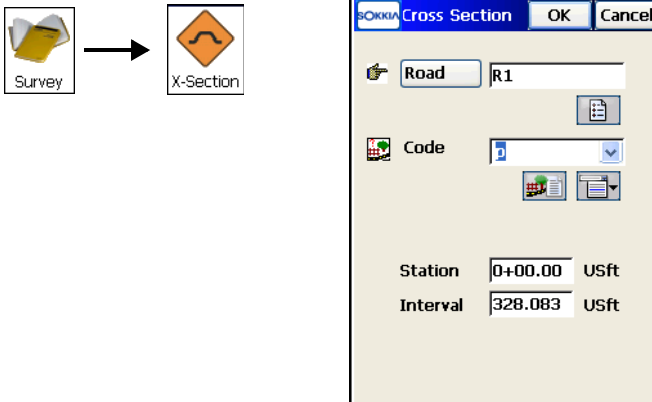

Figure 8-28. Cross Section
2. On the *Cross Section* screen, set the parameters of the station where the cross-section survey is to be performed: the road name, the code and attributes of the center line, the station where the cross section is surveyed and the increment of distance towards the next station (Figure 8-28). Tap **OK**.